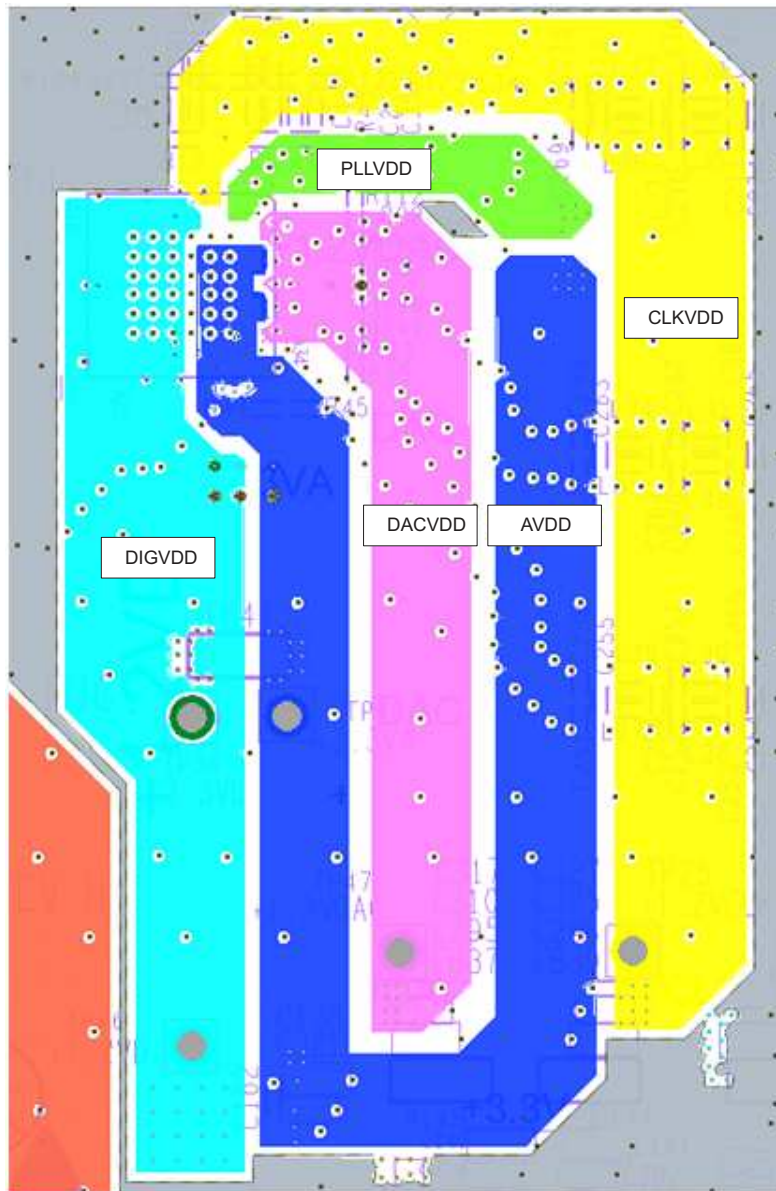

Figure 101. Third Layer of DAC3482 Layout Showing Power Layers. Layout Example from DAC3482EVM Rev H
The following layout guidelines correspond to the layouts shown in Figure 101 and Figure 102.
2. As shown in Figure 101 and Figure 102, both layers three and four are designated for power supply planes. The DAC analog powers are all in the same layer to avoid coupling with each other, and the planes are copied from layer three to layer four for double the copper coverage area.